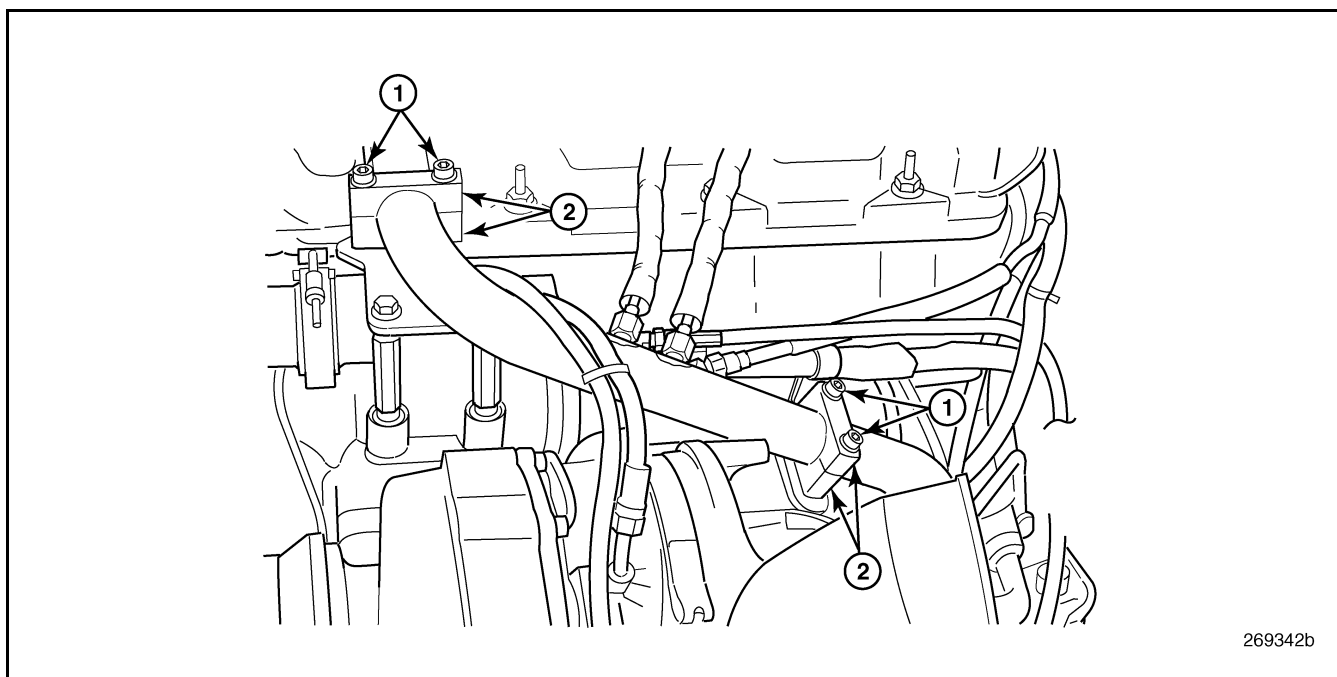

Figure 491 — Cool Tube Clamp Installation
4. Install the clamps and mounting bolts to secure the cool tube to the mounting brackets at the EGR valve and the front exhaust manifold (Figure 491). Tighten the bolts to 96 lb-in (11 N•m).